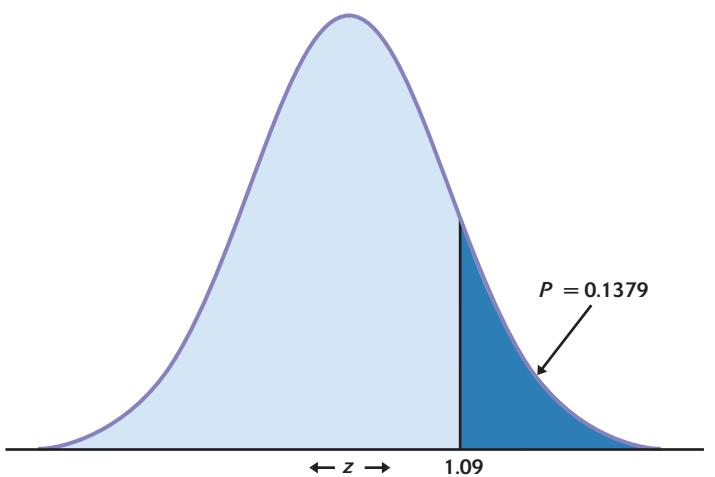

FIGURE 6.9 The P -value for the one-sided test in Example 6.13.
Step 3: P -value. Draw a picture to help find the P -value. Figure 6.9 shows that the P -value is the probability that a standard Normal variable Z takes a value of 1.09 or greater. From Table A we find that this probability is